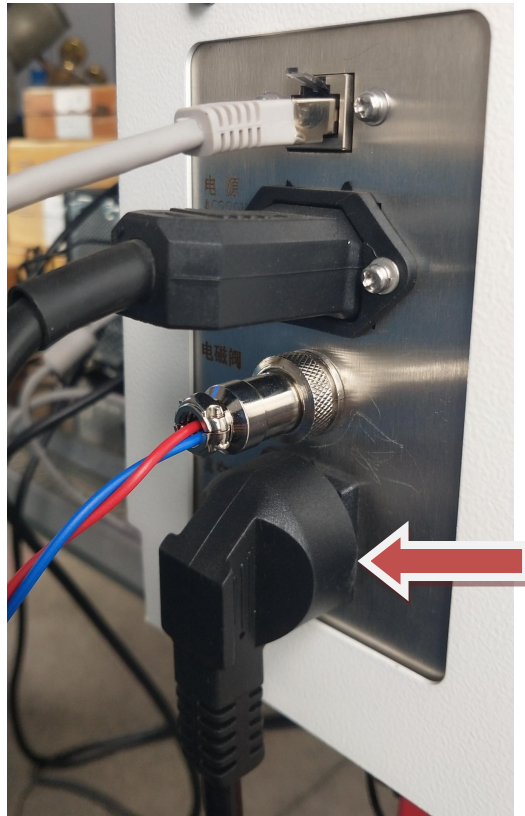

Figure 3-22 The middle socket
Step 1 Connect the wire on the vacuum pump to the back of the machine and turn on the vacuum pump, as shown in Figure 3-22: